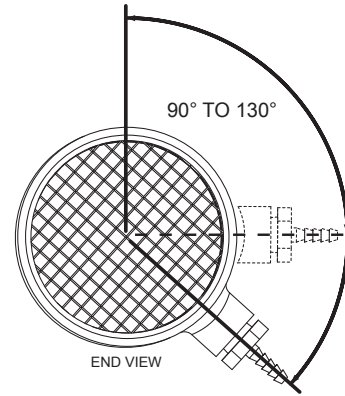

Figure 25. Intake Air Connection Hose Barb Angle Range for Proper Operation
Ensure that the hose barb installed in the Tee fitting IS NOT facing down towards the ground (180° - 6 o'clock position) before venting installation begins. The barb fitting must be angled between 90° and no more than 130° as shown in *Figure 25* (page 33). If the barb fitting is facing down, residual condensate that occasionally forms in the intake-air pipe can drain into the Blocked Intake Air switch through the attached sensing tube and damage the switch. This condition can also lead to Blocked Intake Air fault conditions and associated control system lockouts.
The intake-air Tee fitting is factory-installed with the 1/2 inch branch and hose barb angled to the right at approximately 130° when viewed from the end. See *Figure 25*. The Tee fitting's 1/2 inch branch and hose barb must not be angled any lower (towards the ground) than this factory specification. Angling higher, up to a 90° position, will not adversely affect operation and is acceptable.
Inspect the angle of the tee fitting's 1/2 inch branch and hose barb while viewing from the end of the tee. See *Figure 25*. If the angle of the tee fitting 1/2 inch branch and hose barb is lower than shown, adjustment will be necessary. To adjust the intake-air tee fitting angle, follow the steps listed below.
4. Adjust the angle of the tee fitting so that the 1/2 inch branch and hose barb are at the proper angle as shown in *Figure 25*.